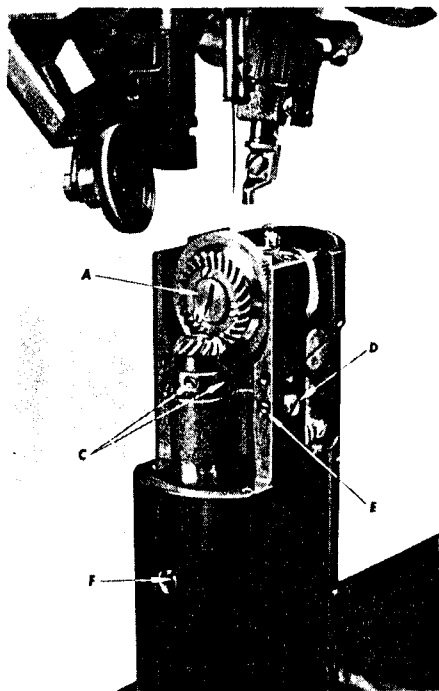

Fig. 19.
The height of the feed wheel is regulated by adjusting the eccentric stud (D, Fig. 19). To raise lower the feed wheel, loosen the set screws (E and F, Fig. 19) and turn the eccentric stud (D, Fig. 19) to right or left until the feed wheel is at the desired height, then securely tighten the set screws (E and F).
Remove feed wheel cover and throat plate. Loosen the two set screws (C, Fig. 19) in the pinion gear, then remove the screw studs (A and B, Fig. 19), the screw (A) being right hand and the screw (B) left hand. The pinion and wheel feed may then be removed.